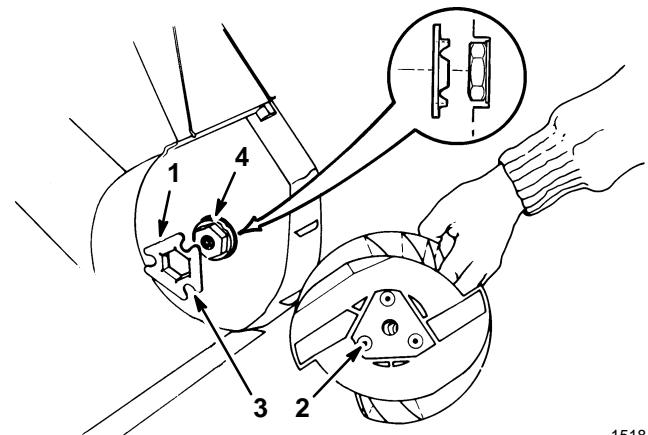

Figure 16
- Align left side of new rotor with coupler. The (3) bosses on rotor end must align with slots on coupler (Fig. 16). When mounting coupler to drive hex, coupler tabs must be aligned to inside. Slide right side of rotor into mounting position.